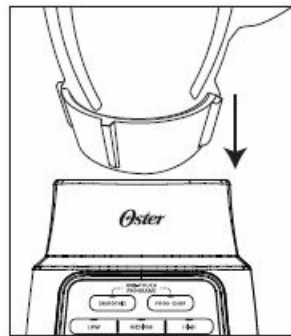

FIGURE 5
6. Place Blender Jar assembly onto Blender Base. (Figure 5)